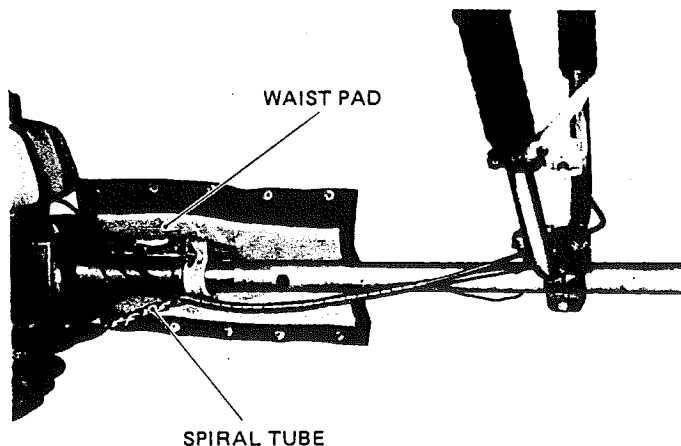

Figure 3
4. Wind the spiral tube round both the throttle wire and the toggle switch cord as in the figure. Attach waist pad. Figure 3.